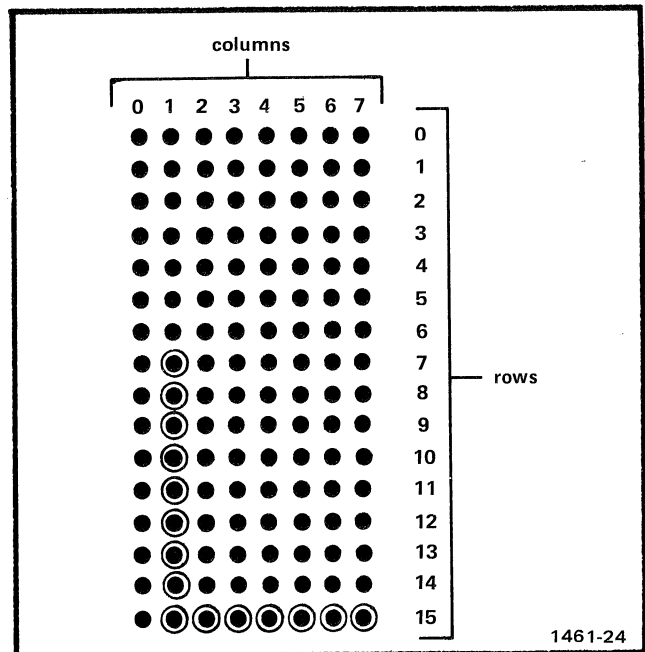

Fig. 6-5. Dots indicate the matrix generated by the Row Counter and Column Counter. No dots can be written when column 0 or row 0 through row 6 are selected.
5. Shift the matrix position up or down (or leave it unshifted) as required by the character being written. Generally the operation is performed in the following manner. Refer to the TC-1 Detailed Block Diagram and Fig. 6-5 as necessary.
its output to select column 1 of the addressed character. The X Matrix Digital-to-Analog circuit output (X MAT) changes to reflect the beam's new horizontal position. When the outputs of the Row Counter went low, they caused the output of the Y Matrix Digital-to-Analog to shift the writing beam up to row 0 position. However, because of the frequency response of the beam deflection circuits, the writing beam cannot position from the bottom of one column to the top of the next column as rapidly as the Counters can indicate this new position. Therefore, beam settling time is provided by not using row 0 through 6 for dot writing. Row 7 through 15 selection cause the Multiplexer to examine the dot information from the ROMs as before. Since column 1 is now selected, dot writing commands can be expected for any character writing that requires a dot (or dots) in column 1. (See Fig. 6-5.) The FUZZ and CIP signals enable the Write Dot circuit during character writing.
Refer once again to Fig. 6-5 and notice that the letter "L" is shown in the matrix. Nine clock pulses provide nine successive WRITE DOT pulses to the Z Axis circuit when scanning column 1. The Z Axis signal is turned on and off to write the dots as the Row Counter steps through all rows in column 1, with the Y MAT changing the beam to each new position.